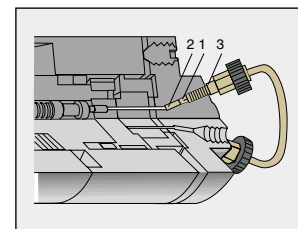

Fig. 2. Cut-away view of PEEK fittings installation.
PEEK tubing is flexible and easy to cut with a sharp blade. Confirm that the ends are clean and straight, and that the inner passage is fully open. To install the tubing follow steps a-c in the stainless steel section above. Finger tightening of 1/16" PEEK fittings is adequate to make a leak-free connection. The 1/8" PEEK fittings need to be wrench-tightened. The slotted backside of the ferrule (1) is squeezed down onto the tube (2) by the mating conical surface in the nut (3). See Figure 2. The nut and ferrule can both be reused many times. Unlike ordinary PEEK fittings, Rheodyne's unique RheFlex PEEK design, specifically the angles and surface contacts between the ferrule and nut, prevents the nut from gripping the ferrule and twisting both the ferrule and the tube during tightening. Otherwise, such twisting stresses the PEEK tubing and lowers the pressure rating of the tubing. See RheFlex Fittings on pages 28-31.